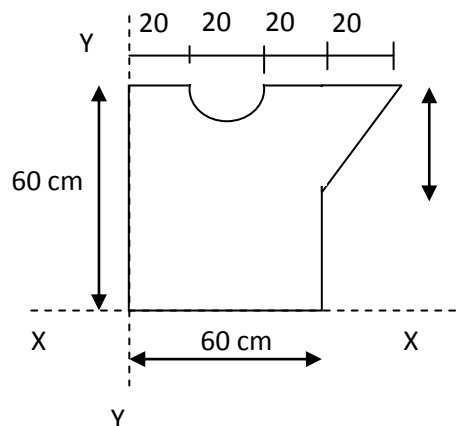

Fig. 2
- (b) Find the moment of inertia of the section with a semi circular hole shown in Fig. 2 about its centroidal axis. (16)